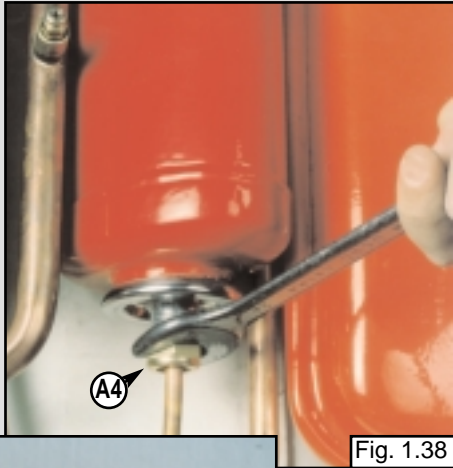

Fig. 1.38
1. Remove nut "A4" away from the expansion vessel (see fig. 1.38);